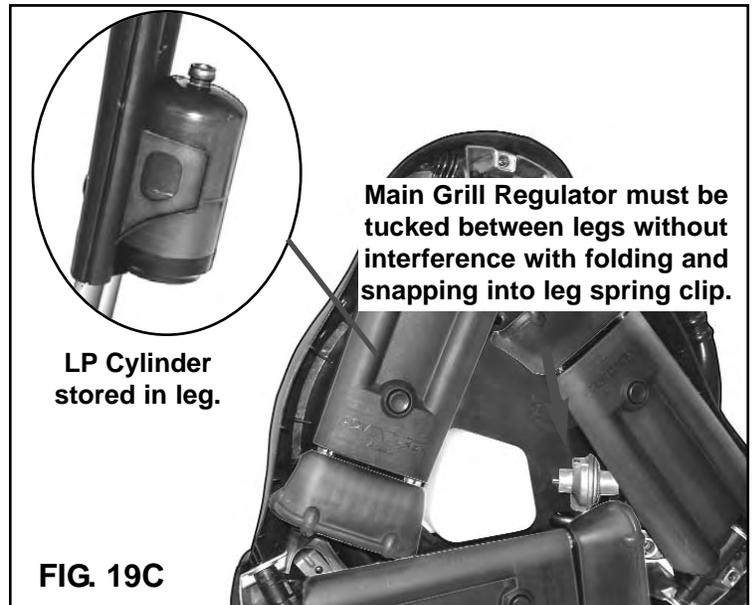

FIG. 19C
- c) Close and latch the Hood. Secure the 1 pound. LP gas cylinders in the leg holders and fold the legs under the grill. **(FIG. 19C)**